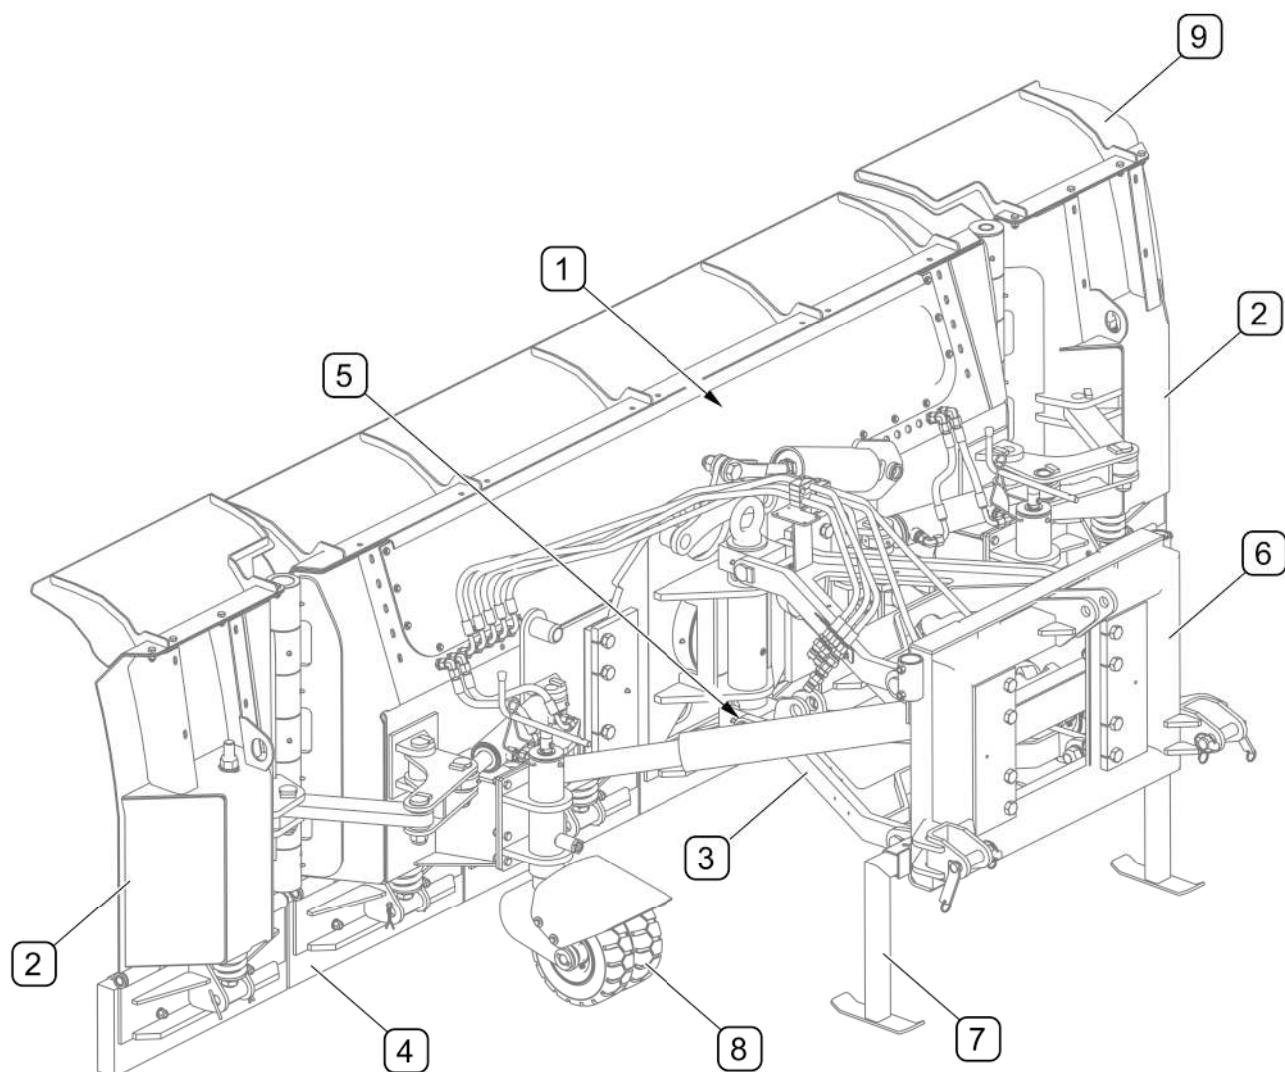

FIG. 3.2 **General design**
Scraper – blade PUU-3700 (FIG. 3.2) has a movable central mouldboard (1) and two movable side mouldboards (2) installed on both sides of the central mouldboard. Collecting blades (4) made of rubber or steel (depending on machine equipment) with spring shock absorbers are attached to the mouldboards. The scraper – blade functions are managed by means of hydraulic cylinders (5) that are electro-hydraulically controlled from the operator cab using the control panel. Optionally, the scraper – blade can be equipped with adjustable supporting wheels (8), mouldboard extensions for silage, mouldboard extensions for snow (9) or dust shield. Depending on the machine version, the scraper – blade can be equipped with various mounting systems (6) for hitching the scraper – blade to a wide range of carrying vehicles. Parking stands (7) are used to support the machine when it is disconnected from the carrying vehicle.